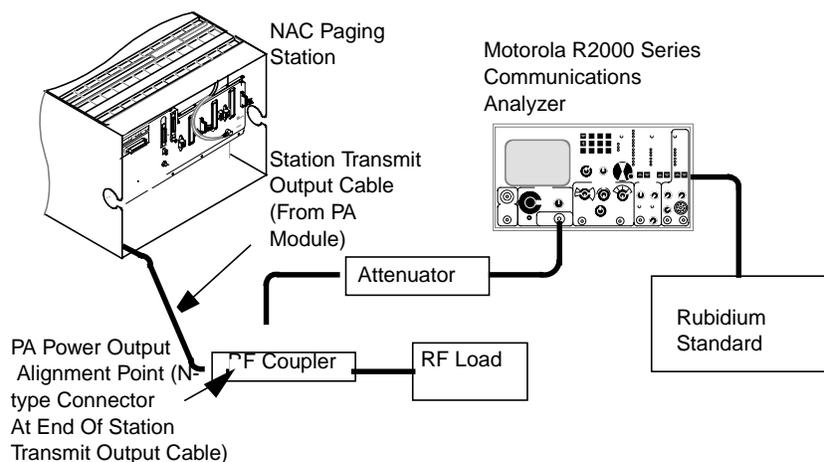

Figure 11-3: Test Equipment Setup for Reference and Pendulum Alignment
Use the following procedure to align the reference (see Figure 11-3):
1. Connect the test equipment as shown in Figure 11-3.